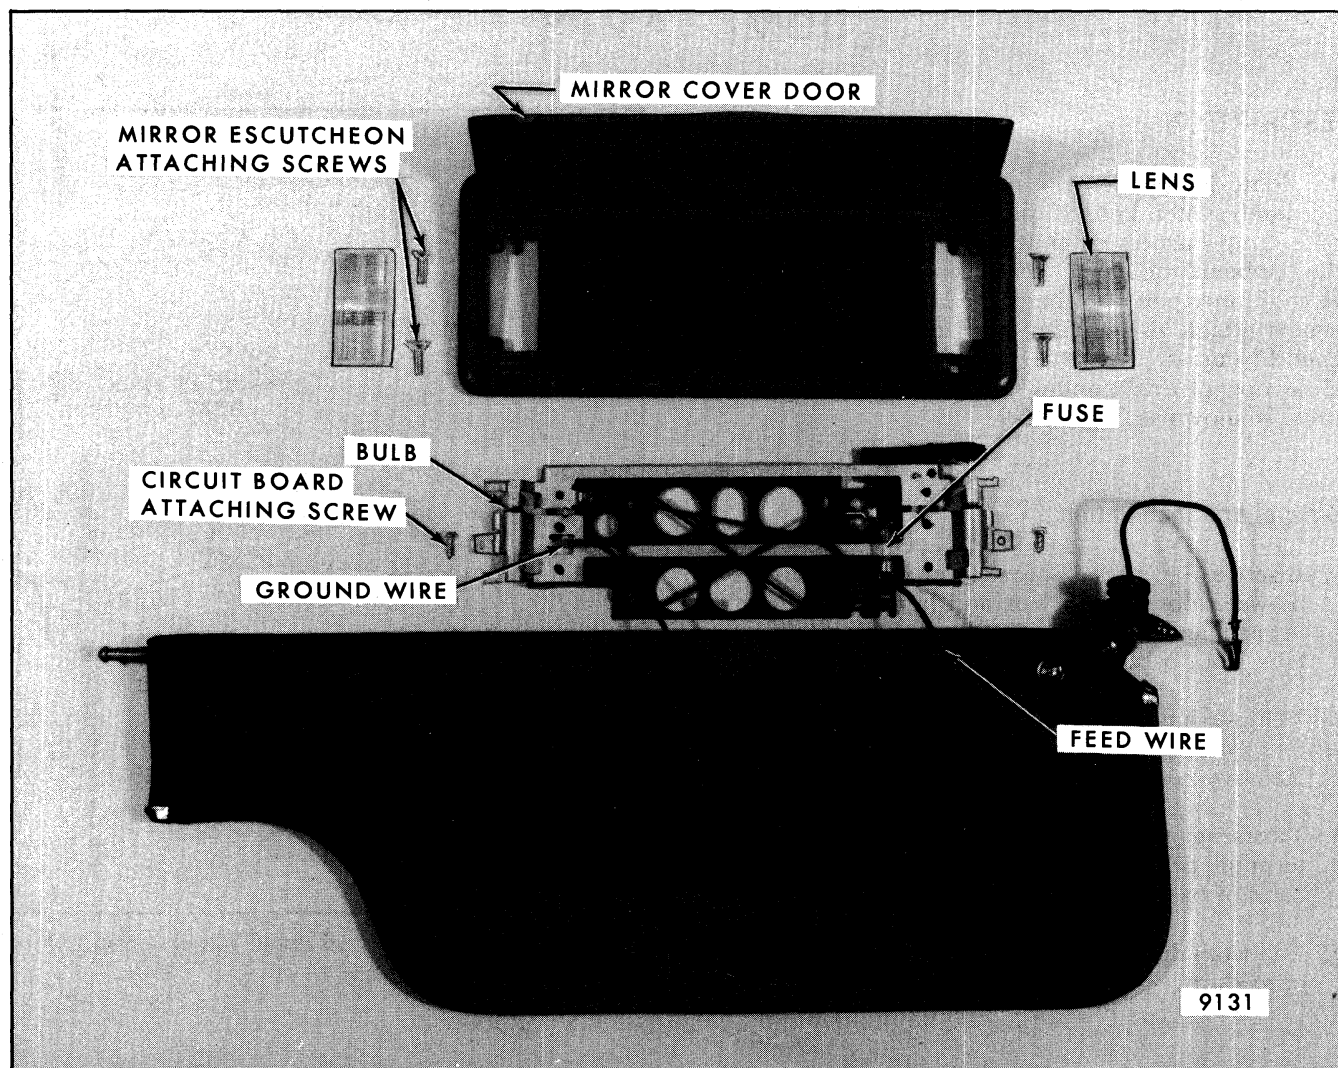

Fig. 8-10 - Vanity Mirror and Lamp Assembly
The vanity mirror lamp harness extends above the windshield opening to the top of the windshield pillar. At this point a connector attaches to the lamp harness (Fig. 8-10).
5. Disconnect feed and ground wire terminals (Fig. 8-10).